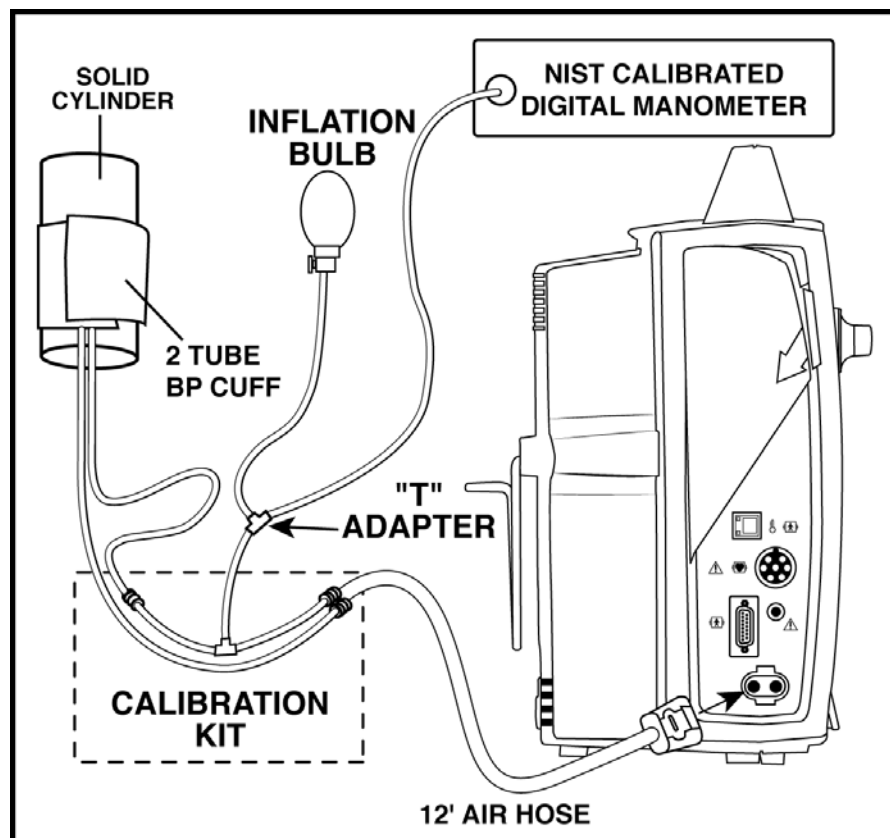

Figure 4-1. NIBP Test Setup
1. Using the calibration kit (part number 320-246), an adult cuff and air hose, and a manometer, set up the equipment as shown in Figure 4-1. Connect the hose to the NIBP Parameter. Make sure that all of the fittings are tight, and that the valve on the manual inflation bulb is fully closed.
1. Using the calibration kit (part number 320-246), an adult cuff and air hose, and a manometer, set up the equipment as shown in Figure 4-1. Connect the hose to the NIBP Parameter. Make sure all fittings are tight, and that the inflation bulb valve is closed tightly.
2. Using the calibration kit (part number 320-246), an adult cuff and air hose, and a manometer, set up the equipment as shown in Figure 4-1. Do not connect the pneumatic hose to the NIBP port yet.
1. Using the calibration kit (part number 320-246), an adult cuff and air hose, and a manometer, set up the equipment as shown in Figure 4-1. Connect the hose to the NIBP Parameter. Make sure all fittings are tight, and that valve on inflation bulb is closed tightly.